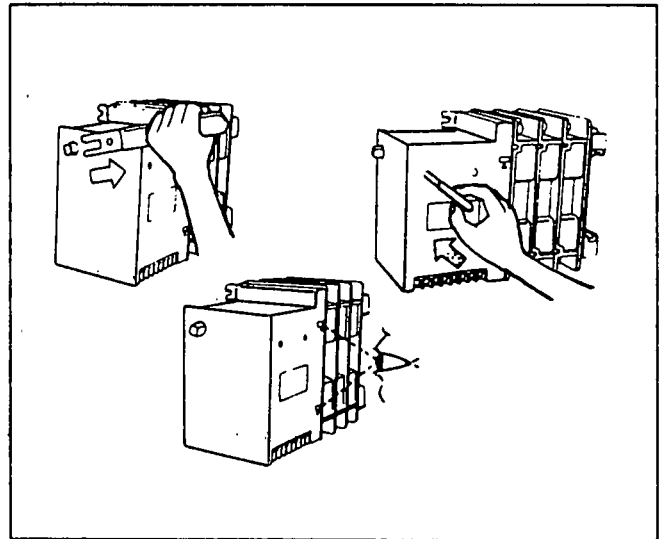

Figure 1. Trip to "Neutral"
- a. Insert the actuating pin (shipped with unit) into Hole "T" (see Figure 1 below). Push the trip lever in.